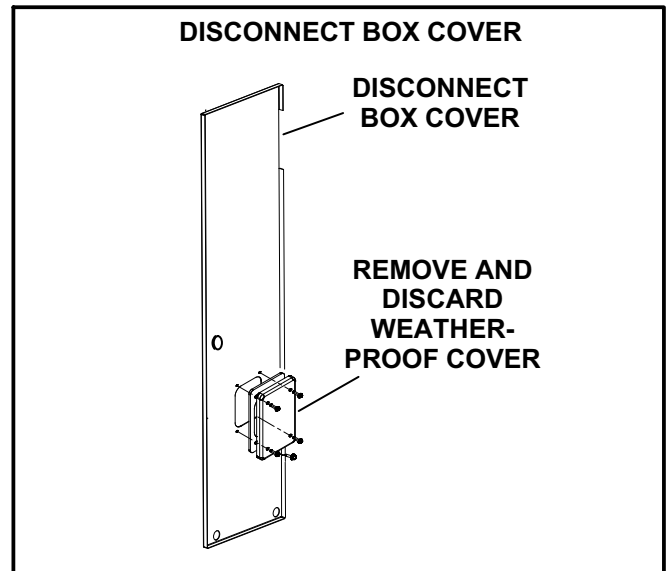
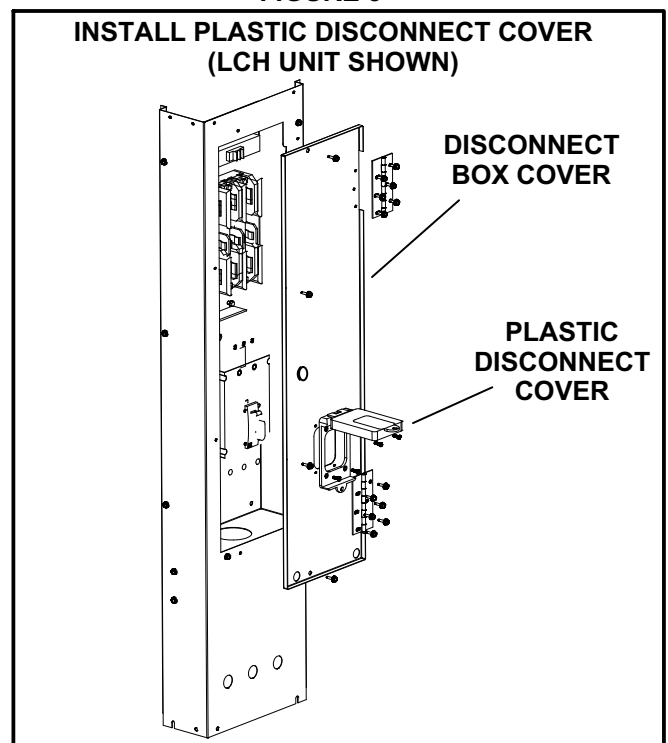

FIGURE 3
FIGURE 4
- 5- Remove and retain the #6 screws securing the weatherproof cover installed on the disconnect box cover. See figure 3. Install the plastic disconnect cover in the same place using the #6 retained screws. See figure 4.